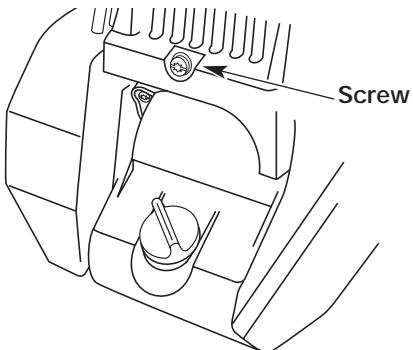

Figure 52
3. Remove the screw behind the engine cover. See Figure 52.